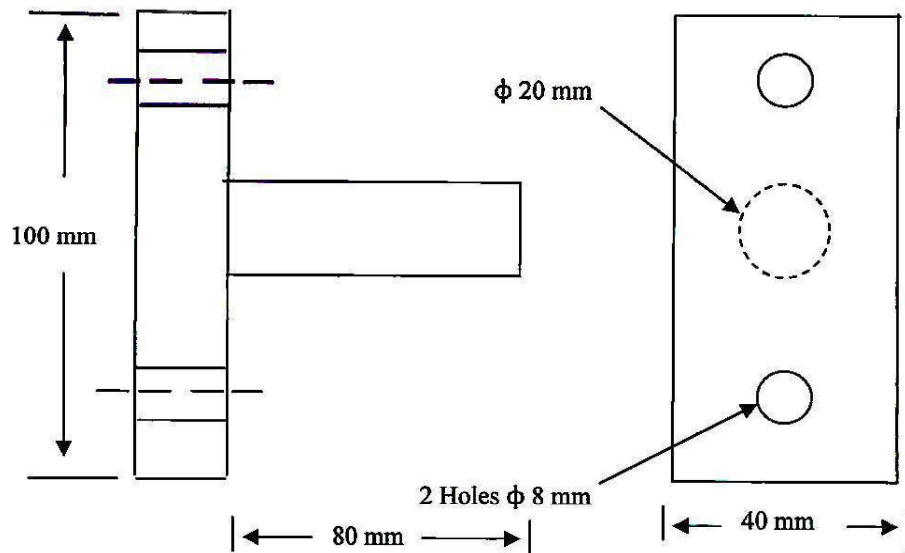

Fig. 2
- (c) Design and sketch drill jig for drilling two holes of $\phi 8$ mm in the part as shown in figure 2. [4]